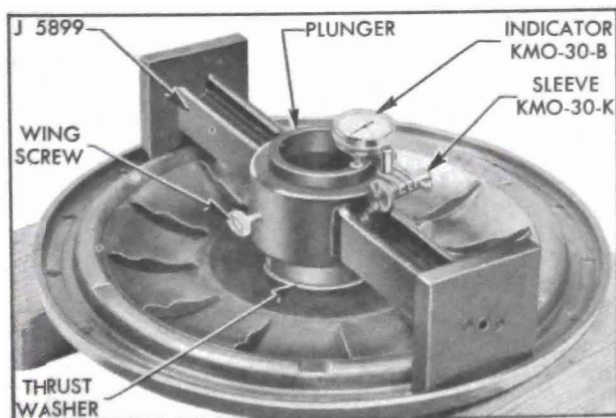

Figure 5-102—Gauge J 5899 on Pump Cover
6. Support the converter pump cover firmly on blocks with inner side up and place the bronze thrust washer in its recess. Remove Gauge J 5899 from pump, *invert it*, and center it on the cover so that it rests squarely on the gasket surface. See figure 5-102.
7. Use Sleeve KMO-30-K to mount Dial Indicator KMO-30-B on the adjustable post of clearance gauge so that indicator button bears squarely against the upper end of clearance gauge plunger. Set dial at zero. See figure 5-102.